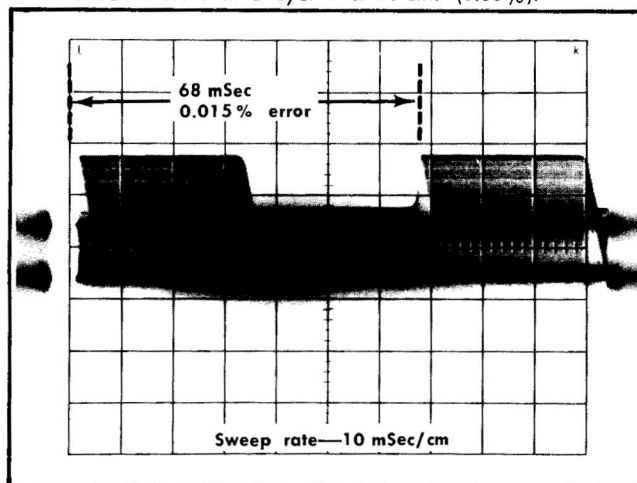

Fig. 5-3. Typical test oscilloscope display when checking Calibrator Repetition Rate.
- Position the trace until DC triggering occurs displaying a stable waveform. Ensure that the triggering causes the difference frequency envelope to remain stable. (See Fig. 5-3).
- Position the trace until DC triggering causes the difference frequency envelope to remain stable (See Fig. 5-3).